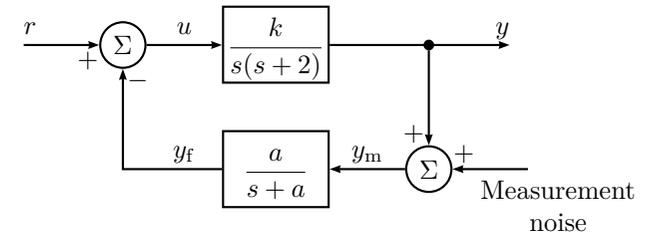

Figure 3.10a
3.10 Consider the system in Figure 3.10a. In a realistic situation what you really measure is not  $y(t)$  but a signal  $y_m(t)$  which is the sum of  $y(t)$  and measurement noise. To avoid that the control is based on noisy measurements one uses  $y_f(t)$  instead of  $y_m(t)$ . The signal  $y_f(t)$  is  $y_m(t)$  filtered through the low pass filter